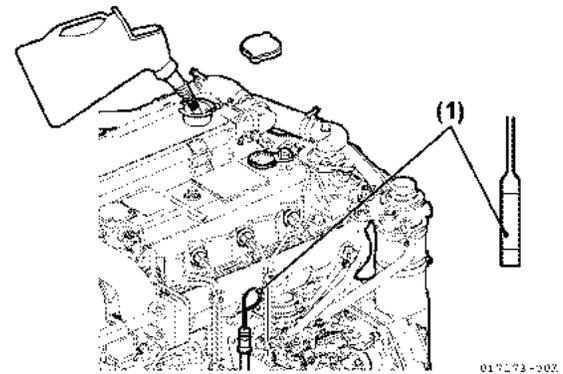

Figure 8-9
19. Approximately 10 minutes after stopping engine, remove oil dipstick and check oil level (Figure 8-9, (1)). Add oil if level is too low.